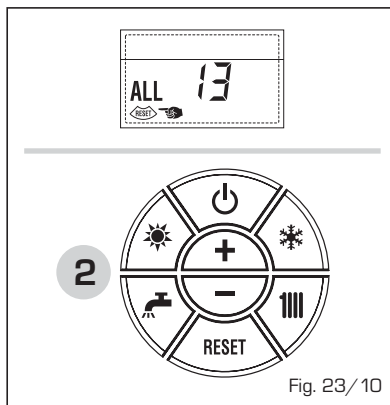

Fig. 23/10
- ANOMALIE SONDE FUMÉES "ALL 14" (fig. 23/11)